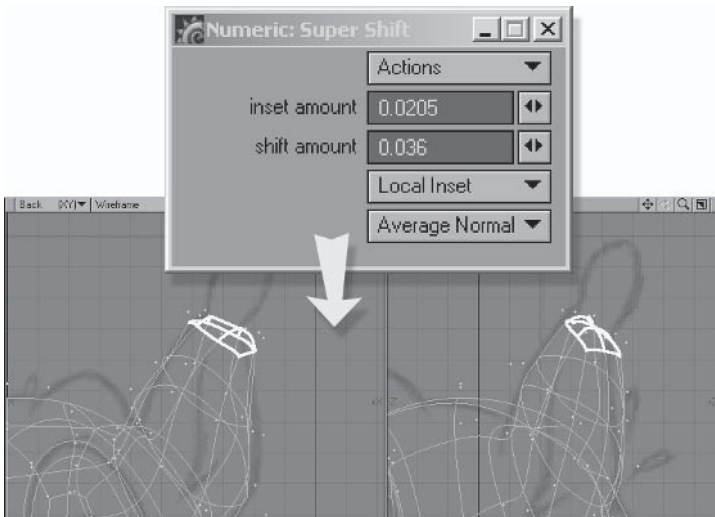

Figure 5.3-44. The main part of the ear is nearly done.
9. **Super Shift** again, using the settings shown in Figure 5.3-44. **Move** and **Rotate** the polygons to fit the backdrops.